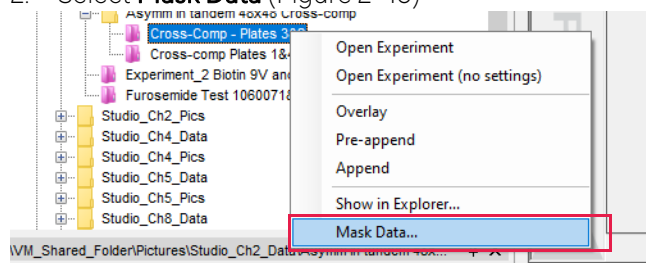

Figure 2-46: Selecting Mask Data Option
2. Select **Mask Data** (Figure 2-46)